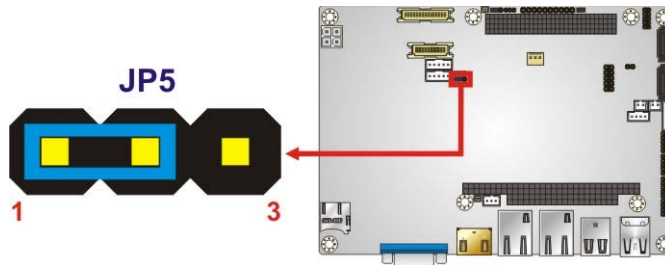

Figure 4-4: LVDS1 Voltage Selection Jumper Location
- Jumper Location:** See Figure 4-4
Jumper Location:	See Figure 4-4